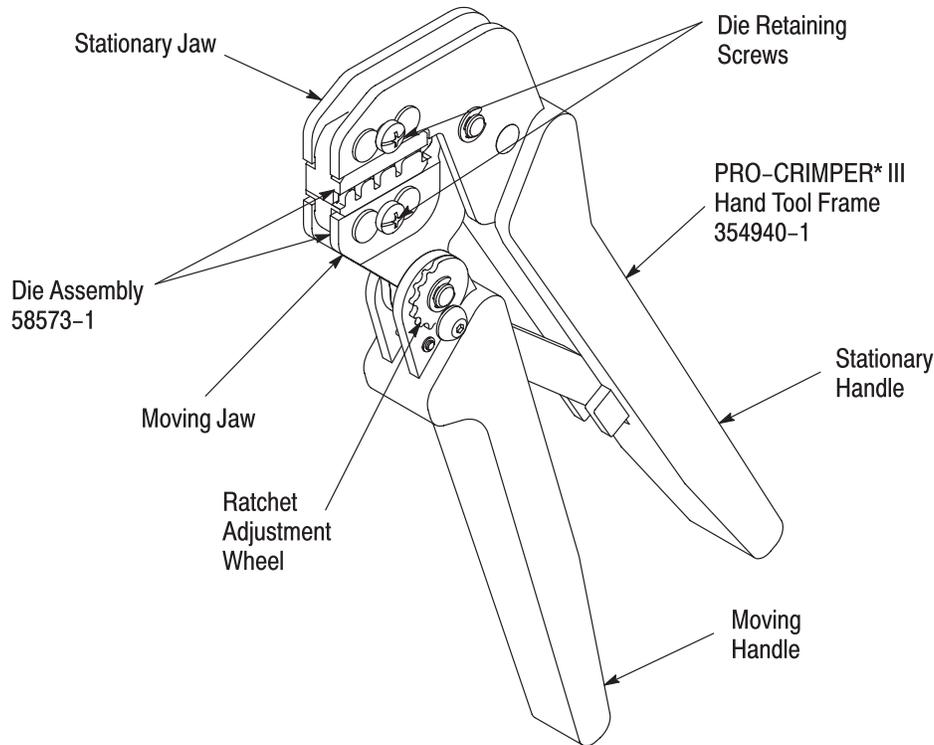

Figure 1
This instruction sheet covers the use of PRO-CRIMPER III Hand Tool 58573-1 with Crimping Die Assembly 58573-2, which is used to apply the standard and moisture resistant spare wire caps listed in Figure 2. The die assembly is designed to be used in PRO-CRIMPER III Hand Tool Frame 354940-1 (shown in Figure 1). For instructions concerning the operation of the hand tool, refer to Instruction Sheet 408-9930, which is supplied with the tool.
**2. DESCRIPTION** (Figure 1)
- Changed lockscrew in Figures 1, 2, and 6